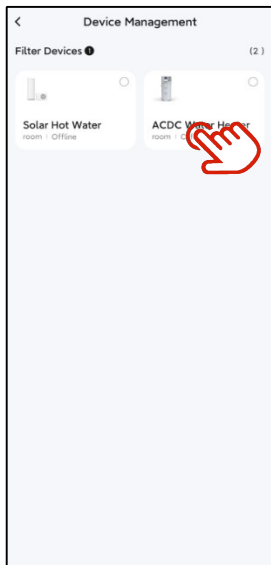

Fig.17 Added device list
10. The added device is displayed in the device list (Fig.17).